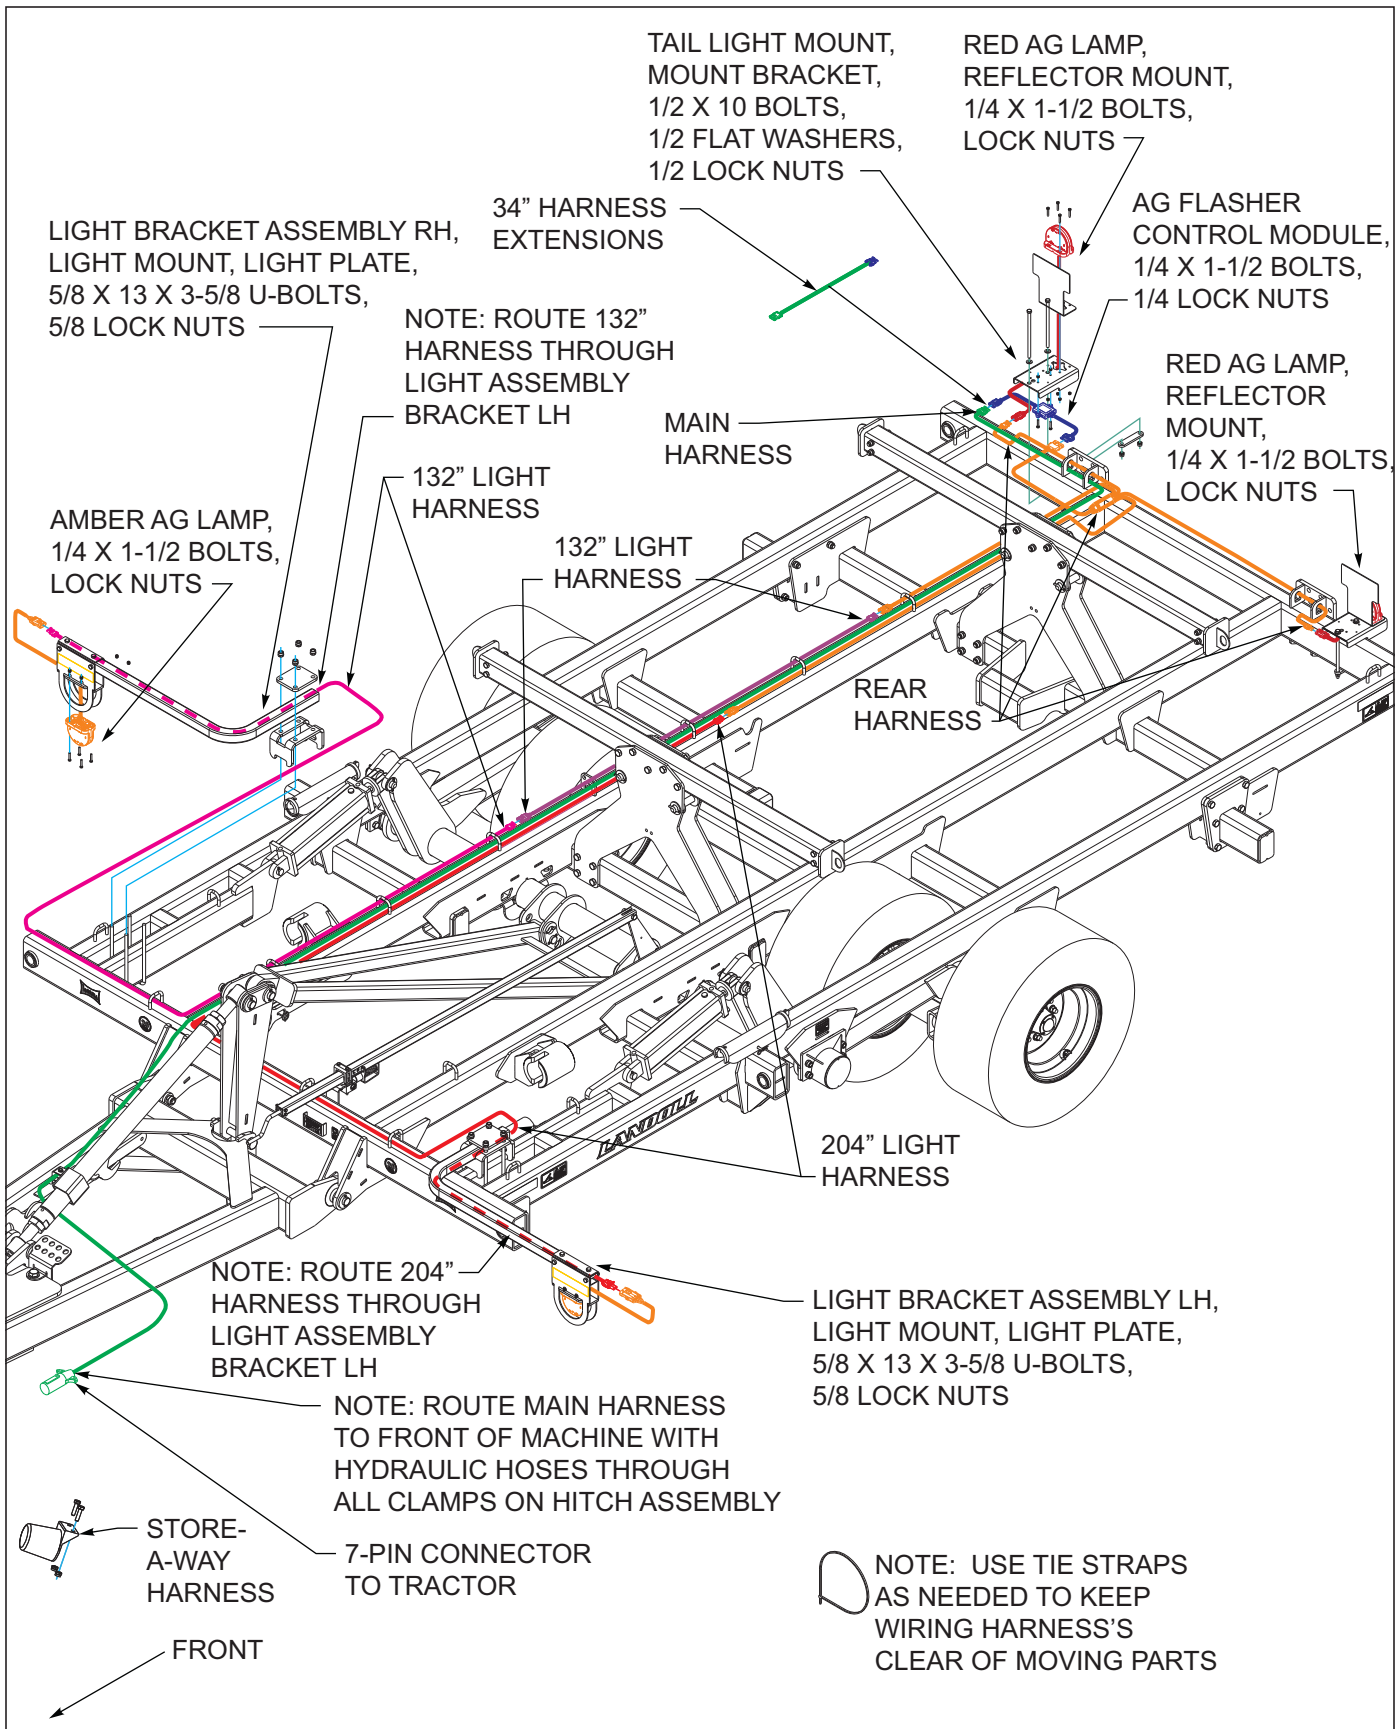

Figure 3-21: LED Light Installation
1. Attach LH and RH light bracket assemblies, light mount, light plates to center frame using 5/8 x 13 x 3-5/8 u-bolts, 5/8 lock nuts See Figure 3-21 .
11. Two 34" harnesses are provided if needed for main harness to reach from flasher control module to the tractor See Figures 3-21.